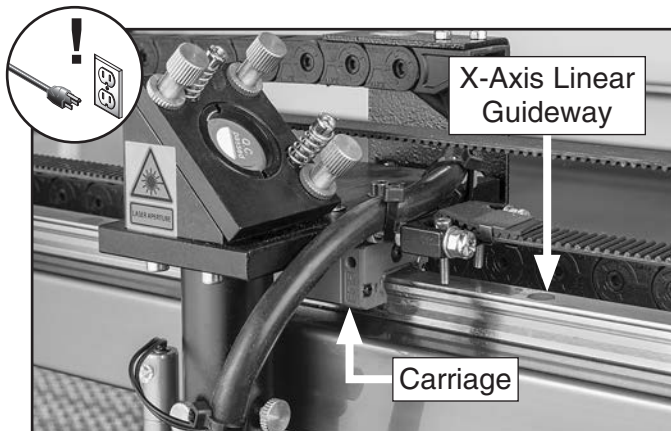

Figure 62. X-axis linear guideway and carriage.
- Using clean shop rag lightly covered with sewing machine oil, wipe linear guideway and carriage until clean (see **Figure 62**).